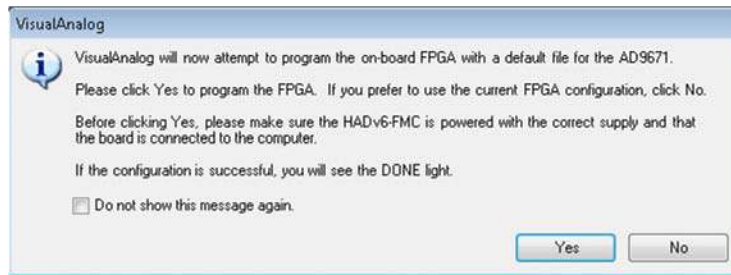

Figure 2. VisualAnalog FPGA Programming Dialog
2. Start VisualAnalog. The software attempts to program the HSC-ADC-EVALEZ data capture board with the default file associated with the detected AD9671EBZ evaluation board. After the file loads, the CONFIG_DONE LED illuminates on the HSC-ADC-EVALEZ data capture board (see Figure 2). Click **Yes**.